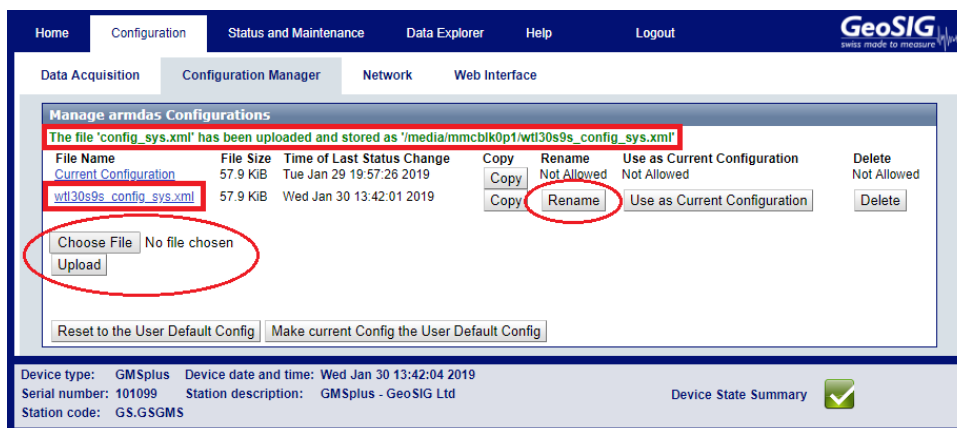

Figure 43: New file upload
1. **The Configuration List:** This list contains all configurations currently available on the SD or CF card. The *Current Configuration* should always be listed in this list. This configuration can be copied and downloaded but not renamed, removed or made the current configuration (as it is already the current). As depicted in Figure 43, these options become available to other configurations stored on the SD card (in this example after uploading a file to the device). When pressing **Use as Current Configuration** it will store this configuration as the *Current Configuration*. The existing configuration will be overwritten and the instrument restarted. Note that only the *Current Configuration* can be edited in the *Firmware* screen. The other configuration files will remain untouched. The *Current Configuration* can be saved in a file by pressing **Copy**.
2. **The Upload Panel:** While the *Configuration List* allows downloading configurations from the device by clicking on the name, this part of the screen provides the possibility to upload a configuration to the web interface by selecting a configuration on the PC and using the **Upload** Button. As can be seen in Figure 43, after a successful upload a new file is shown in the Configuration List and the name of the newly available configuration is written at the top of the list. (The name of new configuration will be created from a random string followed by "\_config.xml"). The configuration can then be changed by clicking on **Rename**. Note that the upload panel might look different depending on the browser in use.